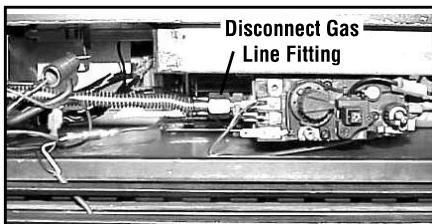

Figure 8
9. **ENSURE THAT GAS SUPPLY IS SHUT OFF.** Disconnect gas line fitting at the valve (for models EDVI30 & EDVI35). See **Figure 8**.